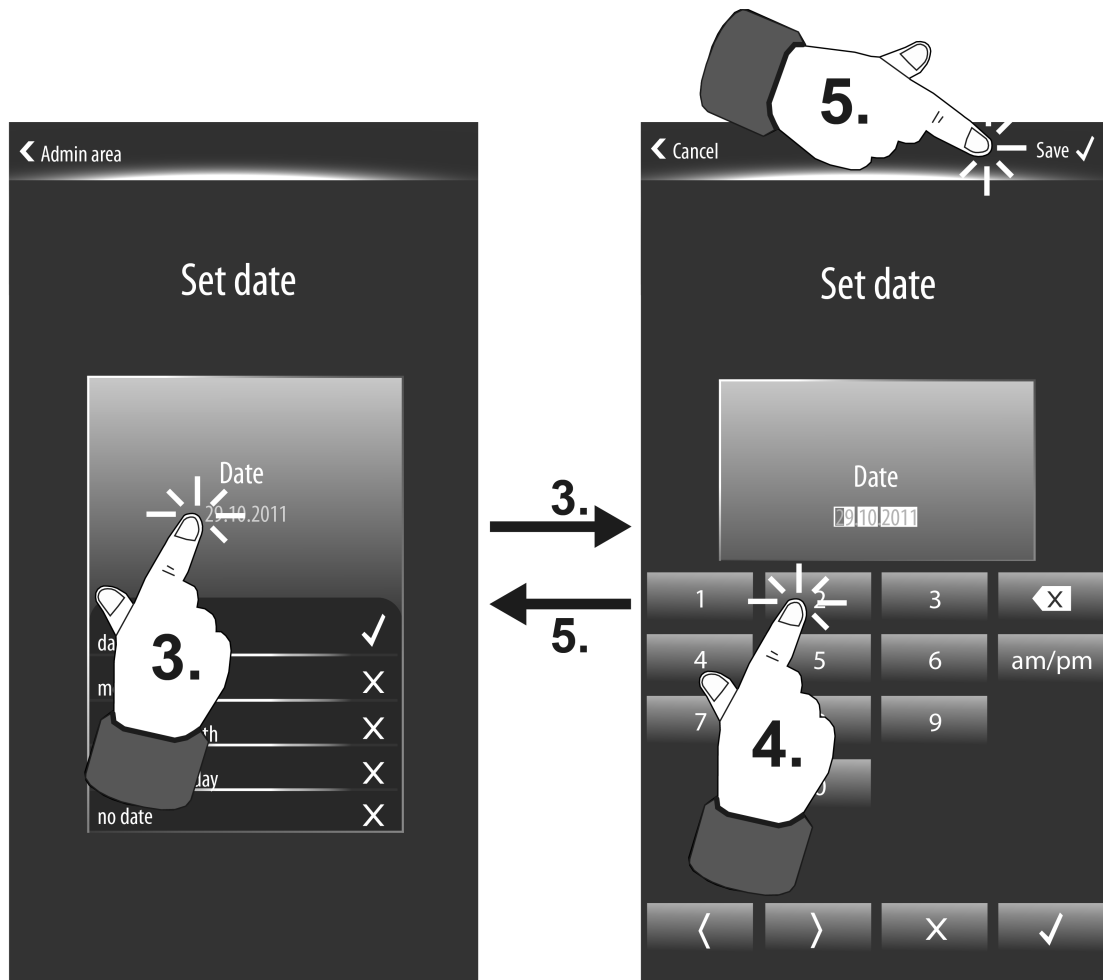

Figure 64: Editing mode for setting the date
You can set the date or time by pressing your finger on the corresponding display pages of the display area for the date or time (3) (figure 64). The display then branches to the editing mode and displays a keyboard. You can edit the date or time directly via the keyboard (4.).